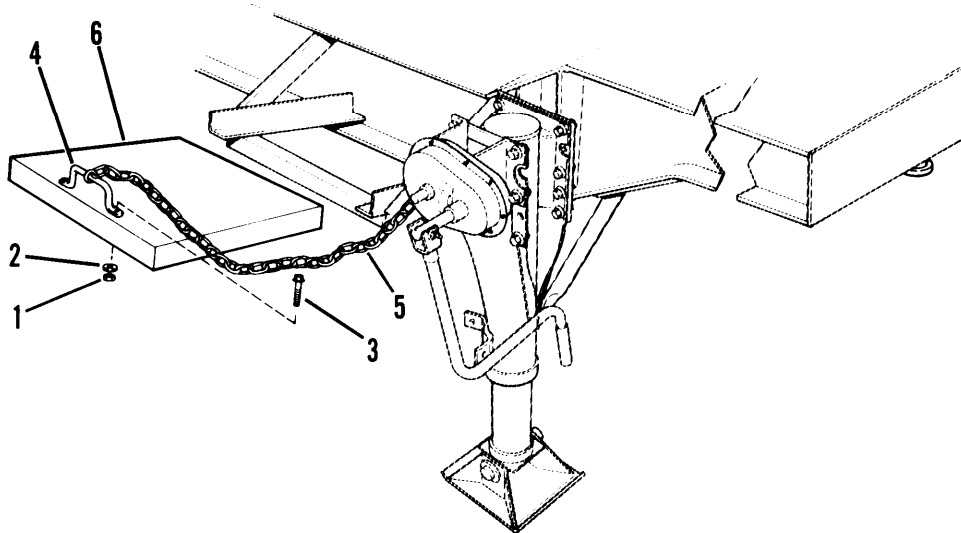

Figure 4-57. Float Pad
- (1) Remove two nuts (1, fig. 4-57), washers (2) and bolts (3) from float pad handle (4).
- (2) Remove handle (4).
- (1) Position float pad chain (5, fig. 4-57) on frame according to markings.
- (1) Position handle (4, fig. 4-57) on float pad (6).
- (2) Secure handle (4) with two bolts (3), washers (2) and nuts (1).
- (3) Stow float pad (6).